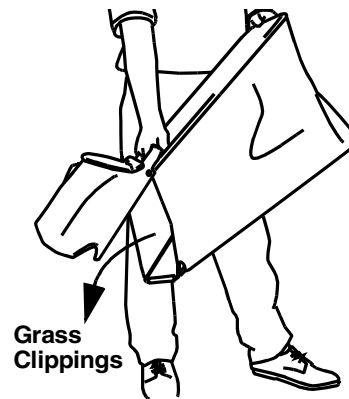

Figure 11
- Continue to hold the lower handle and raise the rear of the grass bag up toward your chest. The grass bag will open and the grass clippings will disperse. See Figure 11.